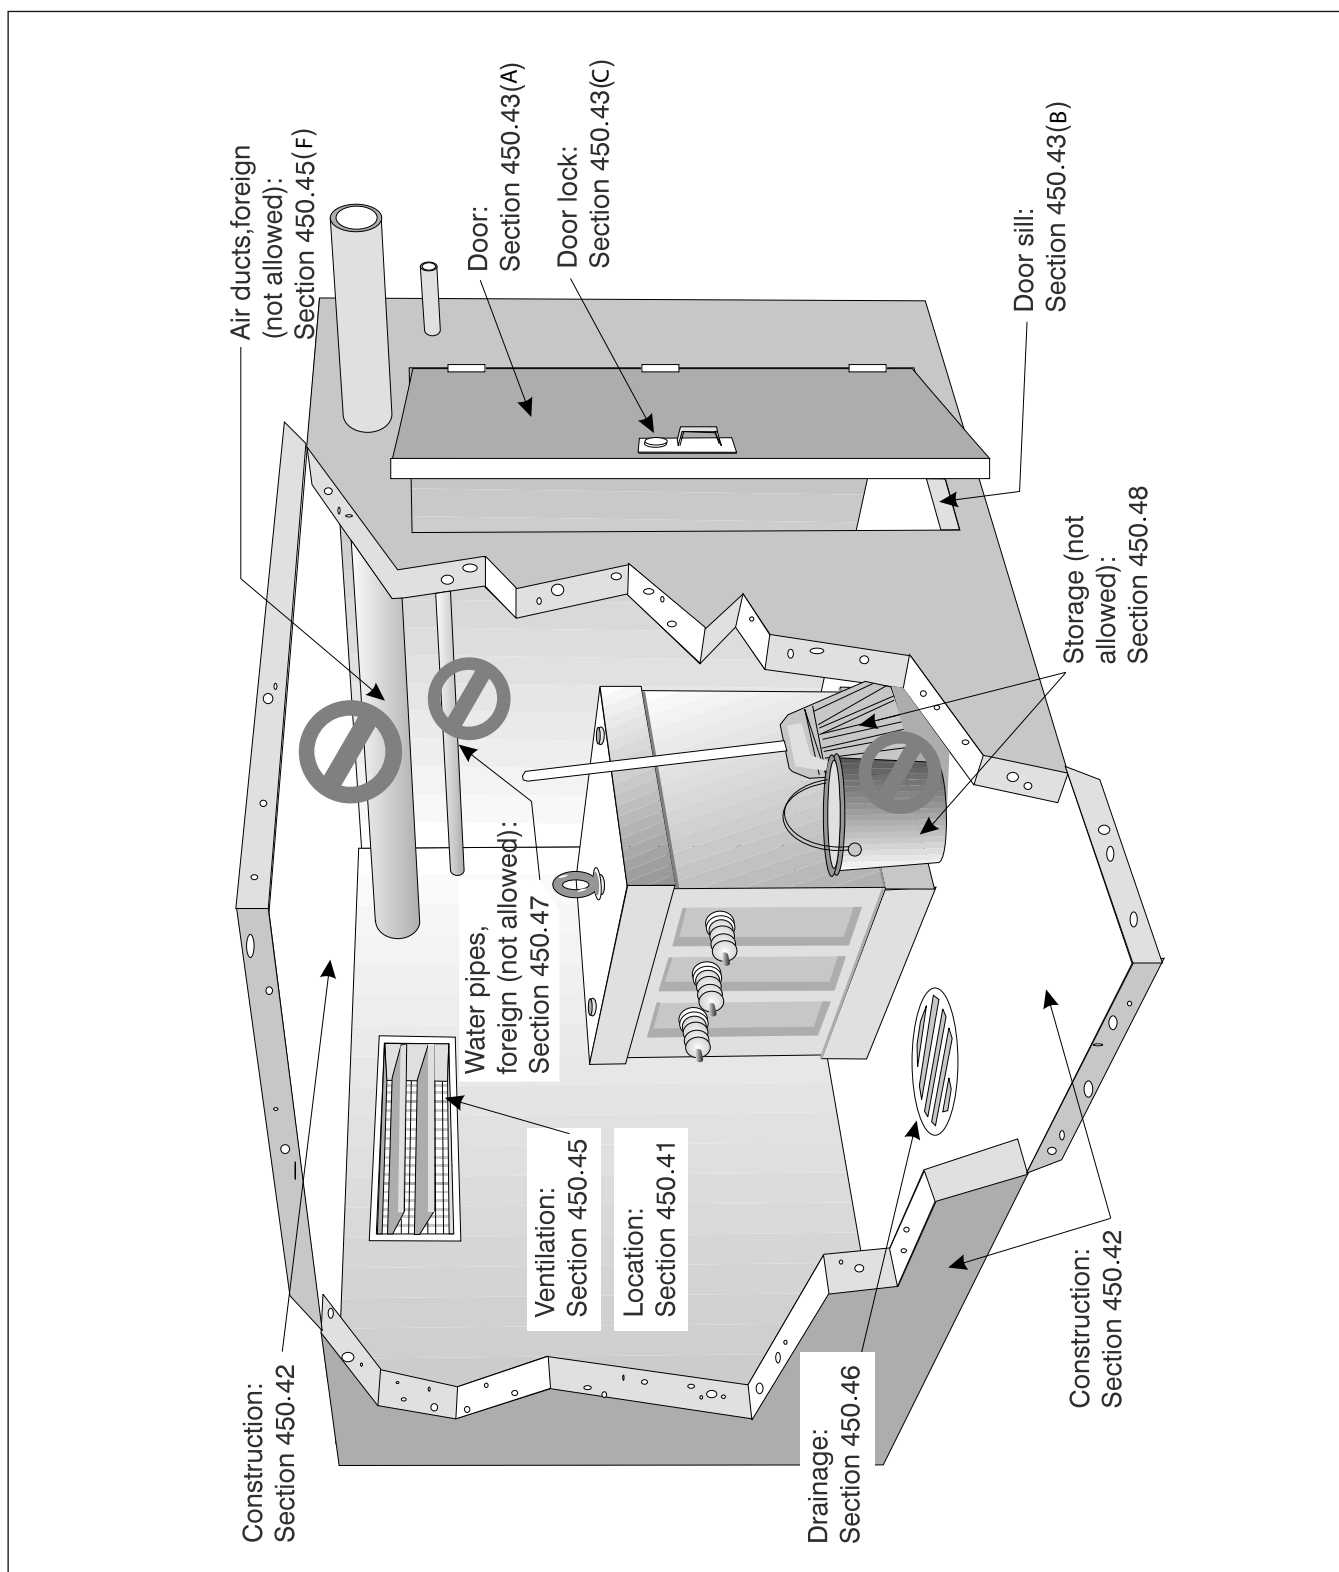

Figure 12-4: Summary of NEC installation requirements for transformer vaults
NEC Section 450.21(C) requires all indoor transformers rated over 35,000 volts be installed in a transformer vault. See Figure 12-4 on the next page.